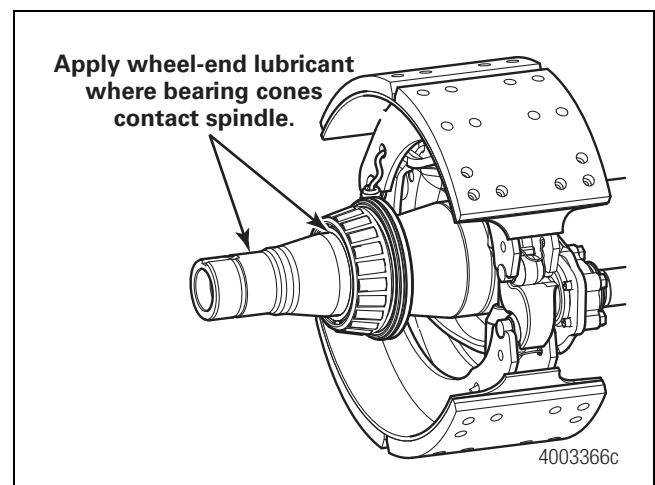

Figure 13.3
2. Apply a light film of wheel-end lubricant to the axle spindle bearing journals to help protect them from fretting corrosion. Figure 13.3.